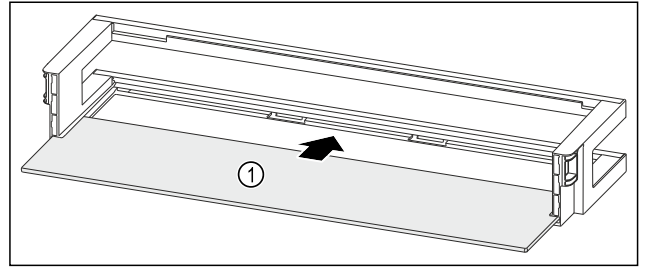

Fig. 94 Door rack with shelf
- ▶ Push the shelf Fig. 94 (1) into the side recesses.